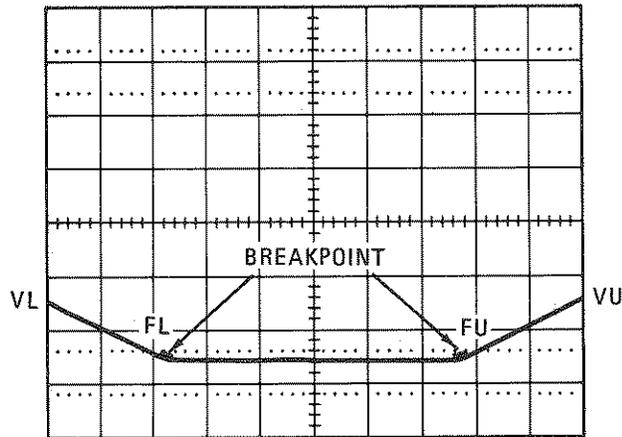

Figure 5-4. Display of Break Points
- Set marker 1 to FL (frequency low) and set marker 2 to FU (frequency upper). (See Figure 5-4.) Set START frequency to 2 GHz.